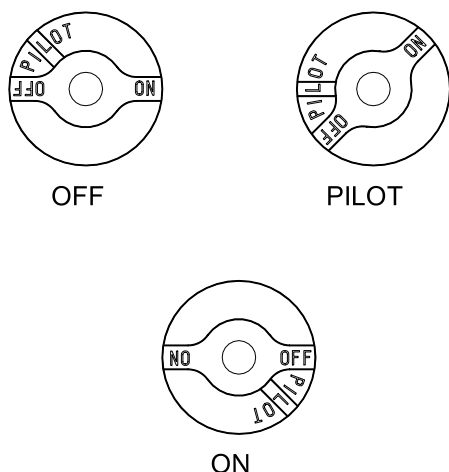

Figure 2 - Gas Supply Control Positions
Situated at the top side of the multifunctional control, the control knob is set correctly when the appropriate symbol is alongside the pointer. (See Figure 2)
- Turn the gas control knob to the pilot position (see Figure 2).
- m) Return the control knob to the pilot position (see Figure 2). This will extinguish the main burner whilst leaving the pilot lit.
When work is done, the gas control knob should be returned to the pilot position (See Figure 2) leaving the pilot lit if required.